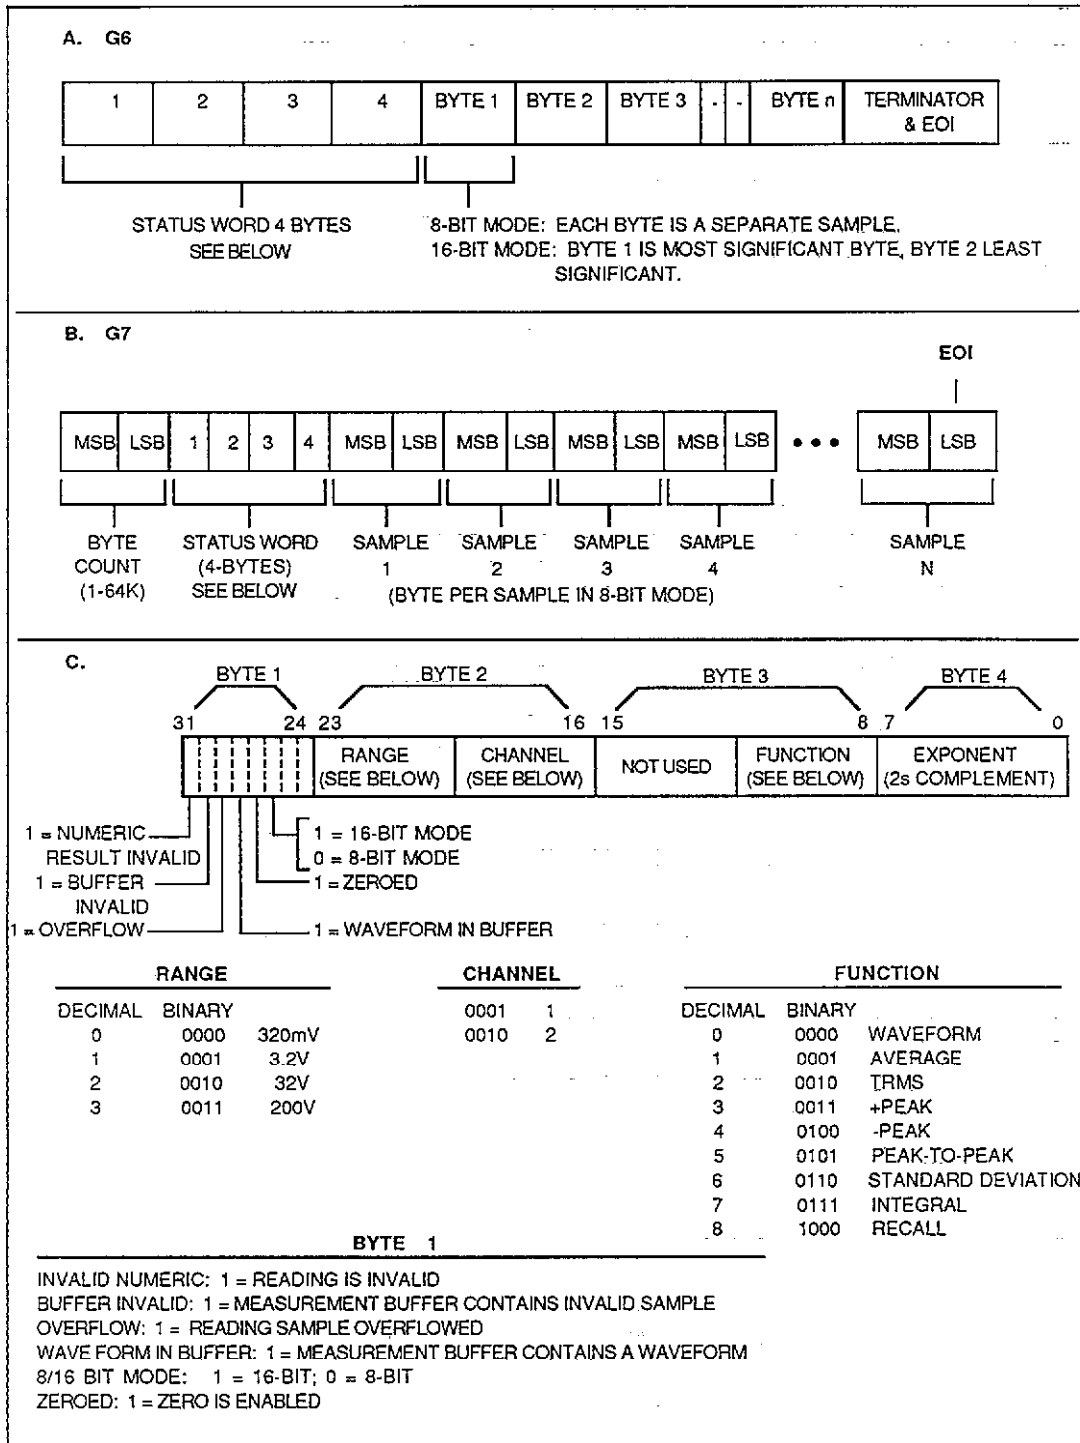

Figure 11. Binary Data Formats
The general binary formats for the G6 and G7 modes are shown in Figure 11. In addition to the one or two bytes for each sample, a 4-byte status word and byte count (G7 only) is added to the front of each byte sequence. The status word contains important information such as range, channel, function, as well as the exponent for the data. In order to display the data, it must first be converted into ASCII form, as demonstrated in Program 5 below.
5. Next, the byte count and status are read from the I/O buffer and placed into numeric variables (line 240). In this case, the first two bytes represent the byte count, while the last four bytes contain Model 194A status information, as shown in Figure 11(c).